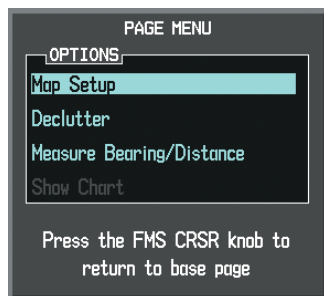

Figure 6-94 Navigation Map Page Menu
- 3) With Map Setup highlighted, press the **ENT** Key (Figure 6-94).